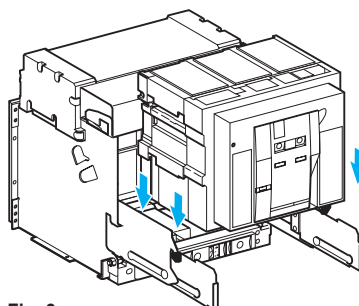

Fig. 3
- position Masterpact on the rails (see Fig. 3),